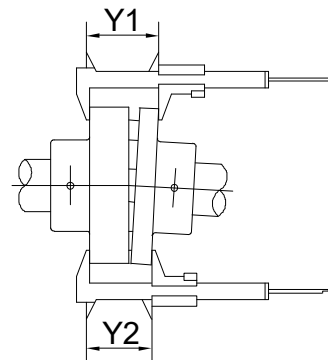

Fig. 9
- 10 - Angular misalignment can be measured with a Calliper. Measure the outside coupling dimension at several points (see fig. 9). Find the minimum and maximum width of the coupling, the difference between these two readings "Y" (Y1-Y2) should no exceed the value listed in tab. 2 for the given coupling size (NOTE: the optimal values have to be considered half of the reported data). Should this value be greater it will be necessary to correct the alignment by re-shimming the pump and/or motor.